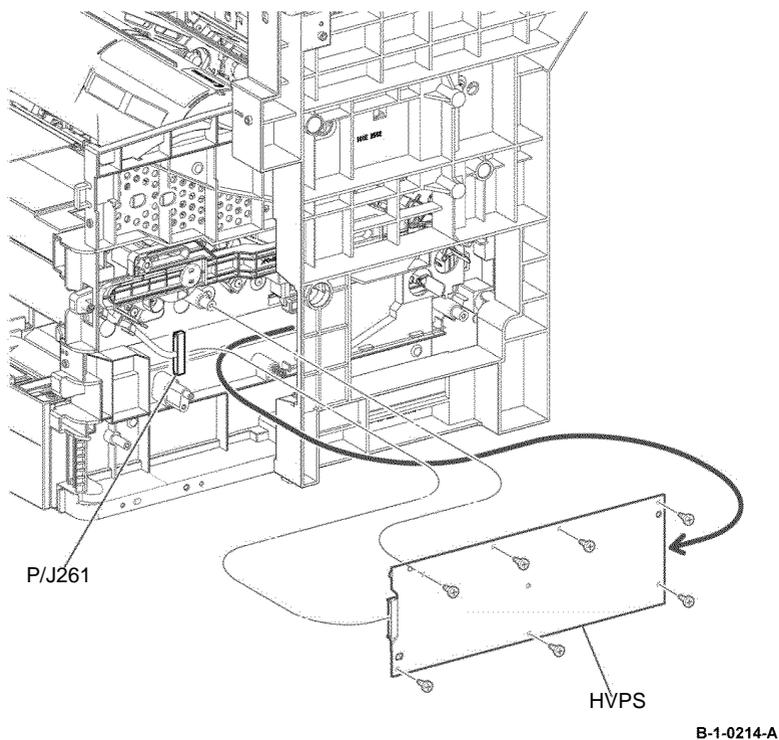

Figure 2 HVPS removal
6. Disconnect P/J261 from the HVPS. Remove seven screws (silver, tapping, 8mm) that fix the HVPS. Release two bosses on the frame from the holes on the HVPS, then remove the HVPS, Figure 2.